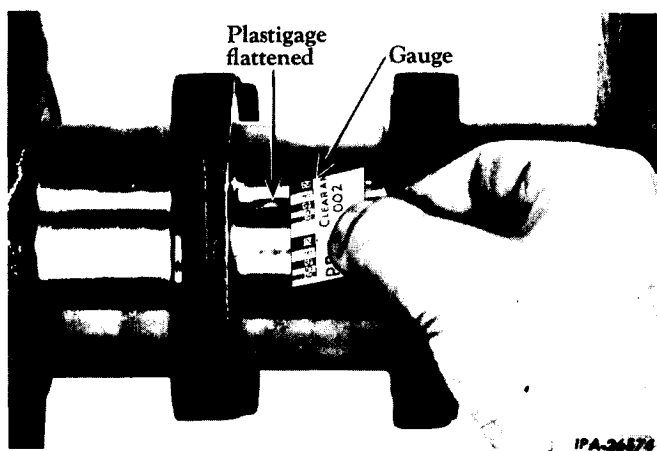

Fig. 15 - Using "Plastigage" Method for Checking Bearing Clearance.
- To determine the bearing clearance, compare the width of the flattened plastic material at its widest point with the graduations on the envelope (Fig. 15). The number within the graduation on the envelope indicates the clearance in thousandths of an inch.